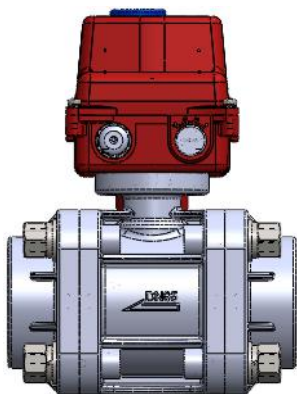

Figure 1
2. During installation, the flow direction should be same as the symbol “ $\Rightarrow$ ” on valve body, otherwise, it will cause leakage; DN65 and bigger ball valves, when installed horizontally, the actuator must be directed upward (as the Figure 1 shows); When installed vertically, the actuator can be oriented in any direction (as the Figure 2 shows);